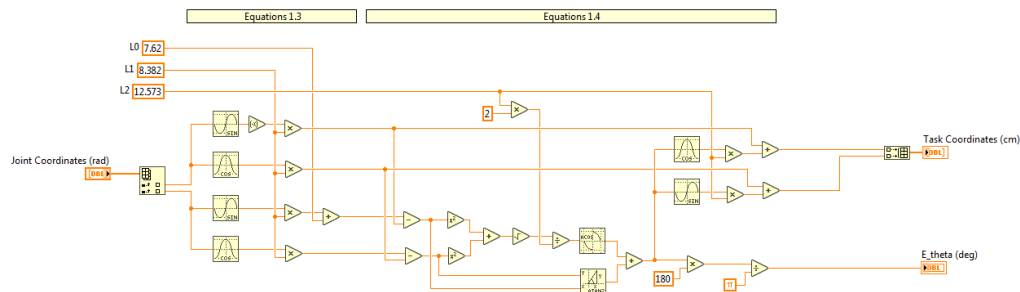

Figure 2.1: Forward Kinematics formulation
1. Open the project `Mechatronic Systems.lvproj`, and under `Quanser ELVIS RIO | Subsystems`, open `Forward Kinematics.vi`. In the block diagram, inside the loop labelled `Forward Kinematics Loop`, open the sub-VI labelled `For Kin.vi`. Complete the model according to that shown in Figure 2.1. The code is similar to Equation 1.3 and Equation 1.4. Test the VI with the following values for $\vec{\theta}$ and comment on the results.